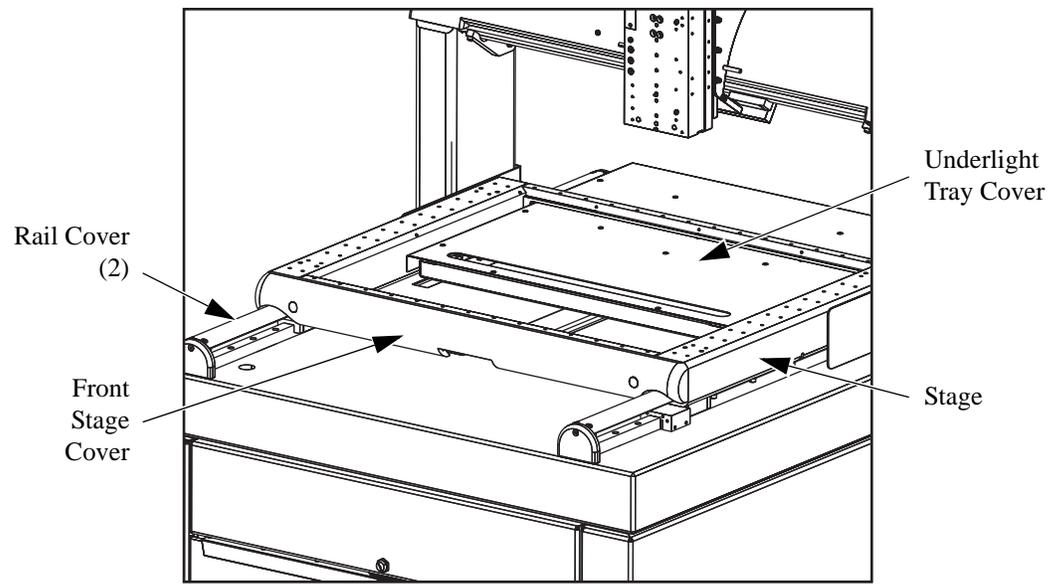

Figure 4-10 Removing the Front Stage Cover, Y-Axis Rail Covers, and Underlight Tray Cover
8. Use a 5 mm Allen wrench and a 3 mm Allen wrench to remove the front stage cover and both Y-axis rail covers (see Figure 4-10).